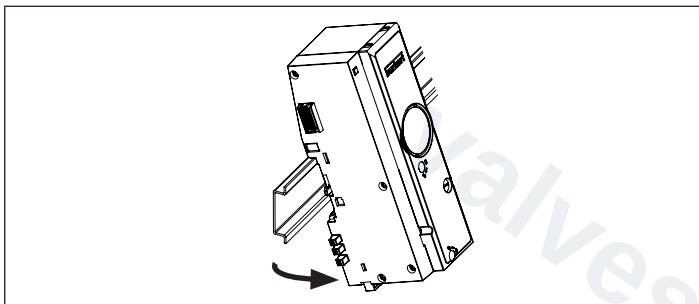

Fig. 18: Loosening the connection module from the standard rail
→ Next, tilt the connection module slightly upwards and loosen it from the standard rail (see “Fig. 18”)
- Next, tilt the connection module slightly upwards and loosen it from the standard rail (see “Fig. 18”).
→ Next, tilt the valve unit slightly upwards and loosen it from the standard rail (see “Fig. 18”).